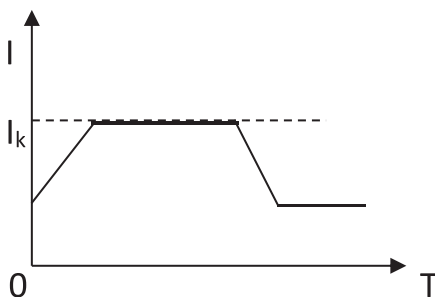

Figure 6.2 Sketch Map of starting current limiting
**F06 Start Limit I.** Settable range: (50-500)%  $I_e$  or (1-6000) A, % refers to the percentage of rated current of motor (i.e. the setting value of parameter F19). (When F08 is set to 0 and 2, the current value is displayed here, not the percentage). This value is used to set the maximum limit current when the soft starter starts with motor. That is, when the output voltage of the soft starter increases, its output current will remain within the set value until the motor starts completely. The current-time is shown in Figure 6.2.  $I_k$  is the set value of F06.